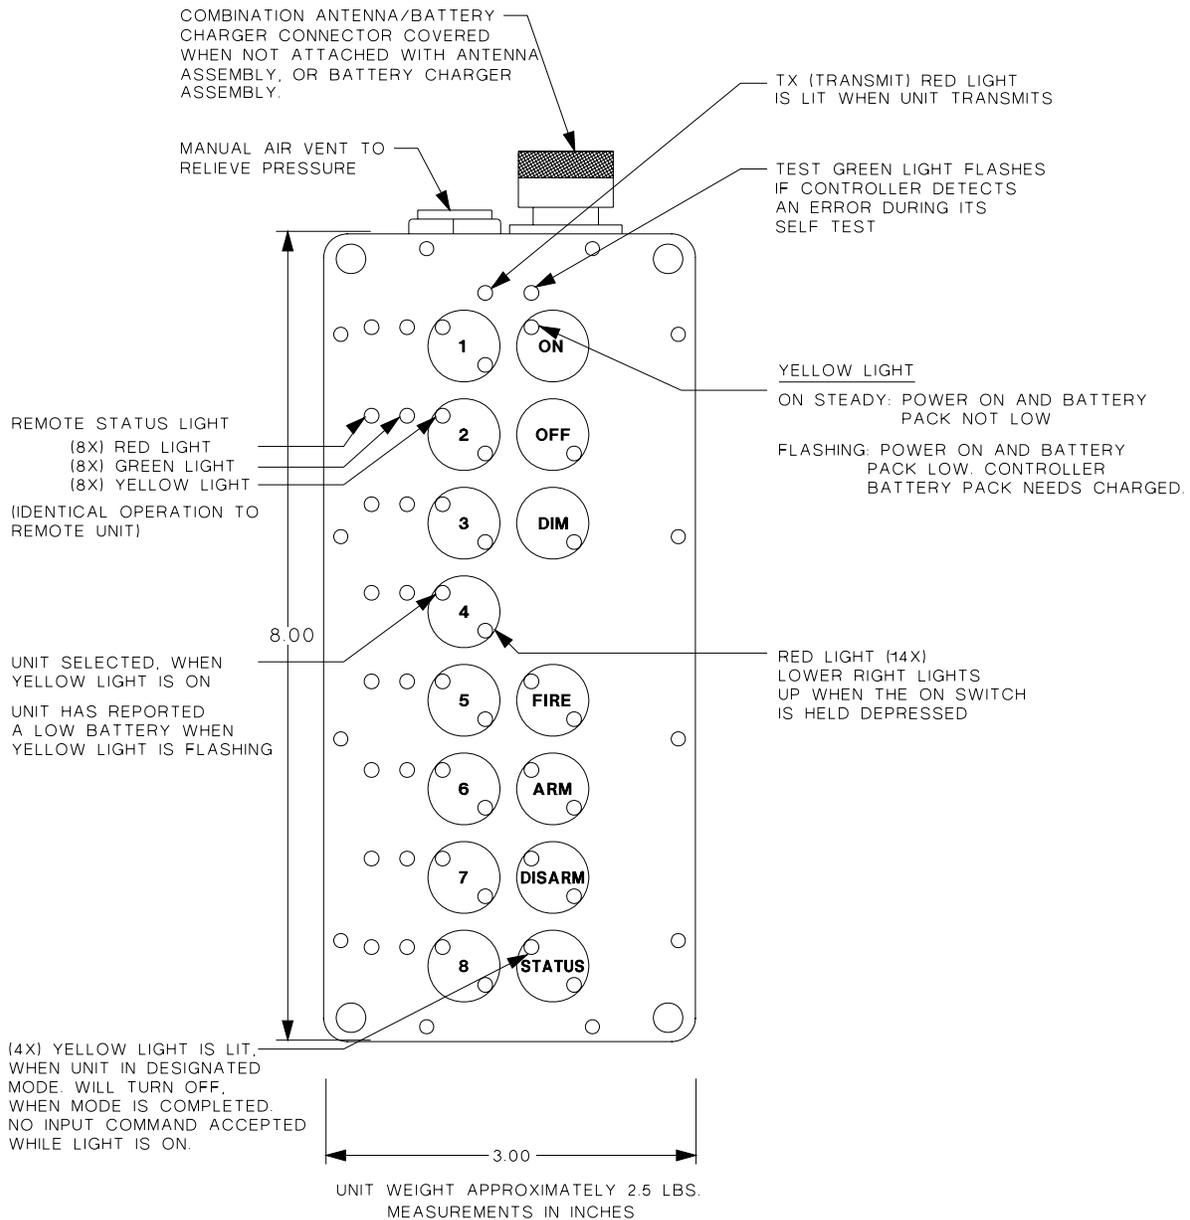

Figure 2-2 Controller Unit.
2.2.1. Figure 2-2. Provides the physical size, weight, front panel light, and switch locations on the Controller Unit. The unit is sealed at the manufacturer or repair depot and should not be opened during field activity.